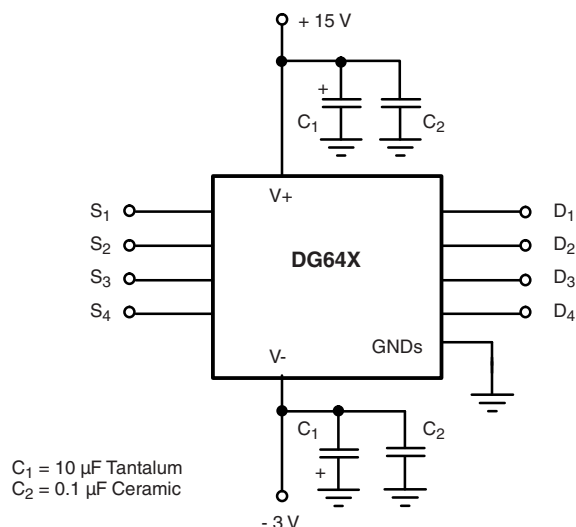

Figure 7. Supply Decoupling
1. Decoupling capacitors should be incorporated on all power supply pins (V_+ , V_-). (see figure 7).